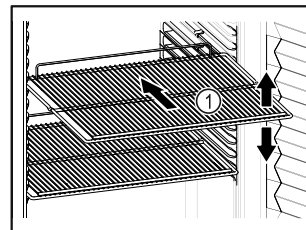

Fig. 74 Example illustration
- If there are adjustable shelves Fig. 74 (1), position them as required.